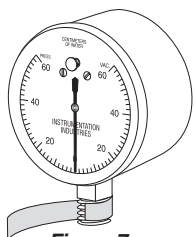

Figure 7
1. Prior to installation, **at least two layers of teflon tape MUST** be applied to threads. (Figure 7)